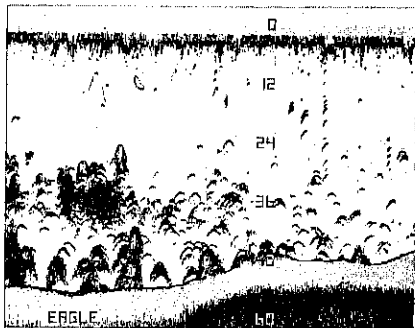

Figure 14
By pulling out the knob, the feature allows you to "Zoom in" on the lower half of the range being displayed on the graph. In other words, with the Range control set to the 60 foot range, and the Bottom Zoom control pushed in (OFF), the scale printed on the chart paper will be 0 to 60 feet. (See Figure 14.) With the Bottom Zoom control pulled out (ON), the scale will be 30 to 60 feet. This allows you to double the size of any target or feature in the lower half of any depth range. (Figure 15.)